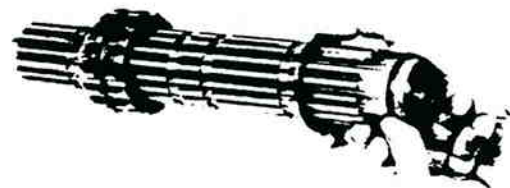

Figure 13-63. Removing 2nd Speed Gear Limit Washer.
17. Rotate 2nd speed gear limit washer to align its splines with those of the mainshaft and remove washer (figure 13-63).